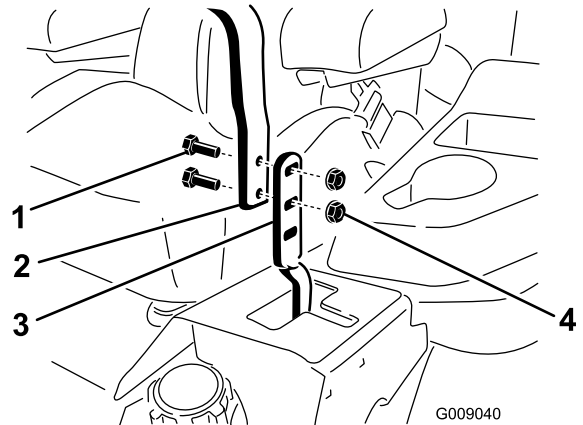

Figure 91
3. Loosen the bolts and flange nuts installed in the levers (Figure 91).